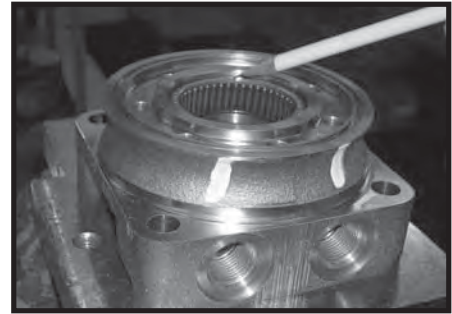

Figure 24
20. If the housing (18) assembly has passed inspection to this point, inspect the housing bearings (19) and (13) and if they are captured in the housing cavity the two thrust washers (14) and thrust bearing (15). The bearing rollers must be firmly retained in the bearing cages, but must rotate and orbit freely. All rollers and thrust washers must be free of brinelling and corrosion. SEE FIGURE 24. A bearing, or thrust washer that does not pass inspection must be replaced. If the housing has passed this inspection the disassembly of the Torqmotor™ is completed.